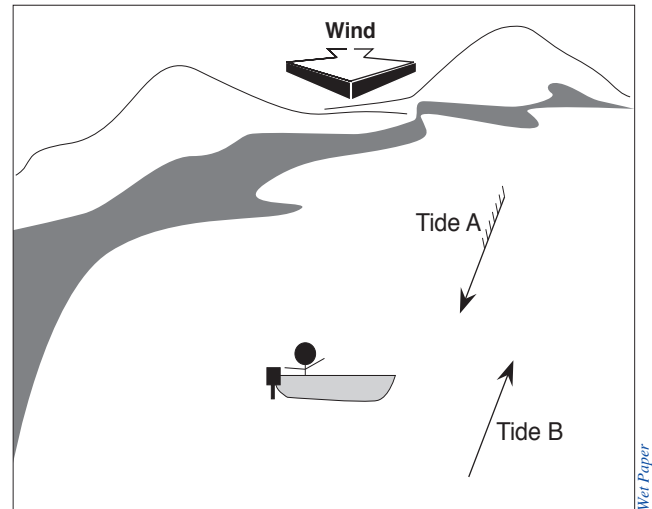

Figure 71.1 Diagram for questions 19 and 20
19. What effect does wind and tide opposed create in an area where tidal range occurs as shown in Figure 71.1 and why is this so?
20. As a skipper of a small craft in Figure 71.1, what tidal stage would allow safe passage?